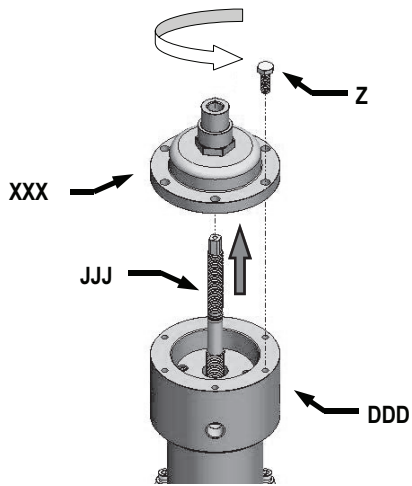
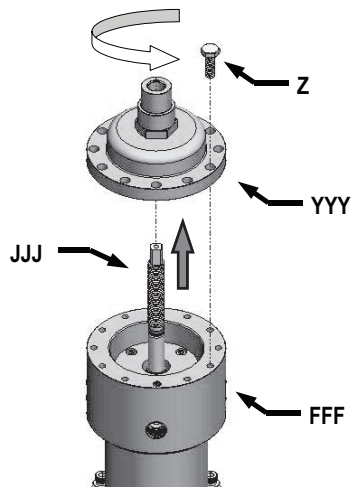

Figure 48
Figure 49
Step 59: For a VRP-600-SB-PID (Figure 48) or VRP-1000/1500-SB-PID (Figure 49), pull the Adjusting Screw (JJJ) up while threading the top cap assembly from Step 58 counter-clockwise. After cap assembly is firmly engaged continue turning the Adjusting Screw (JJJ) clockwise while pushing top cap assembly down. You will feel a firm engagement of the cap assembly in place. At this time orient the cap assembly such that the mounting holes are in line with the pressure ports. Bolt the Cap (XXX or YYY) using 6, 1/4-20 x 3/4" HHCS (Z) for a VRP-600-SB-PID or 12, 1/4-20 x 3/4" HHCS (Z) for a VRP-1000/1500-SB-PID.